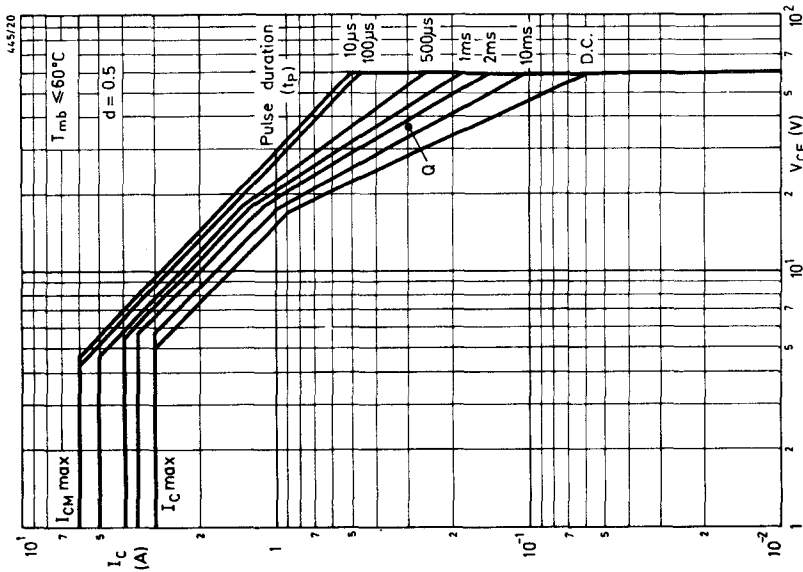

Fig. 5—Typical SOAR family for $d = 0.5$ (50% duty cycle)
- 7) Plot the point given by the specific I_{CM} and V_{CEM} values, shown as point Q in Fig. 5.
- Using linear interpolation between the 1 and 2ms curves at $d = 0.5$ (Fig. 5) draw a SOAR curve for $t_p = 1.7ms$. If point P is within this area then the conditions are acceptable and the heatsink thermal resistance can be calculated.